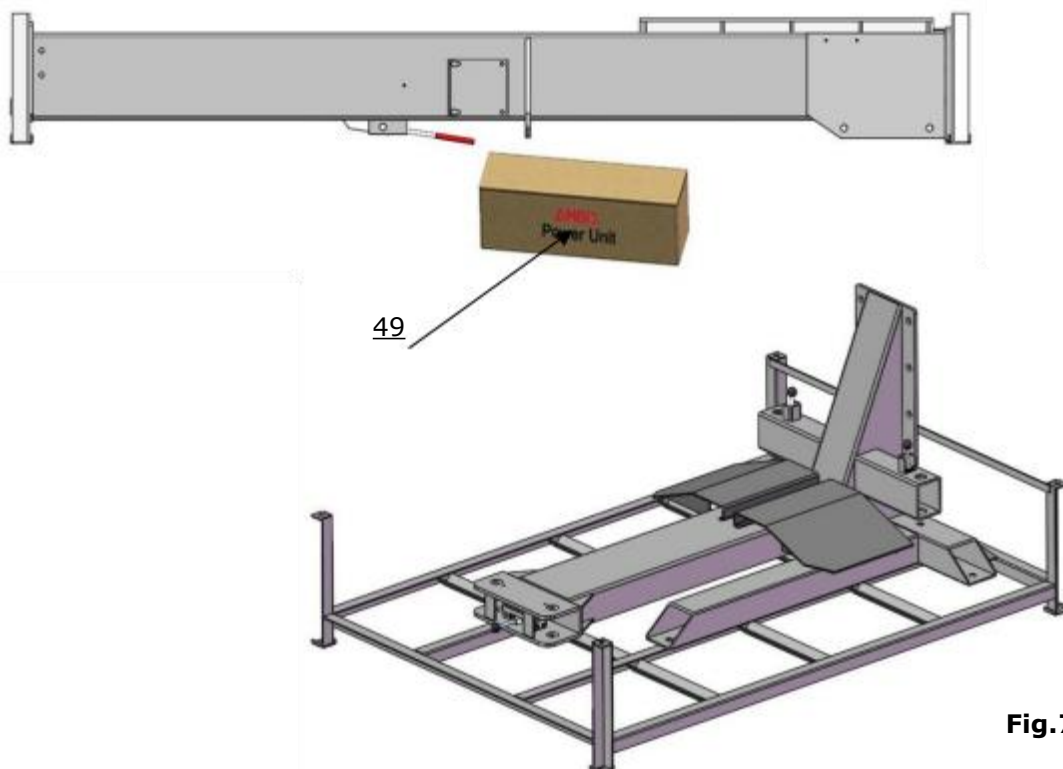

Fig.7
1. Received package (lift and hydraulic power unit) (See Fig. 7)